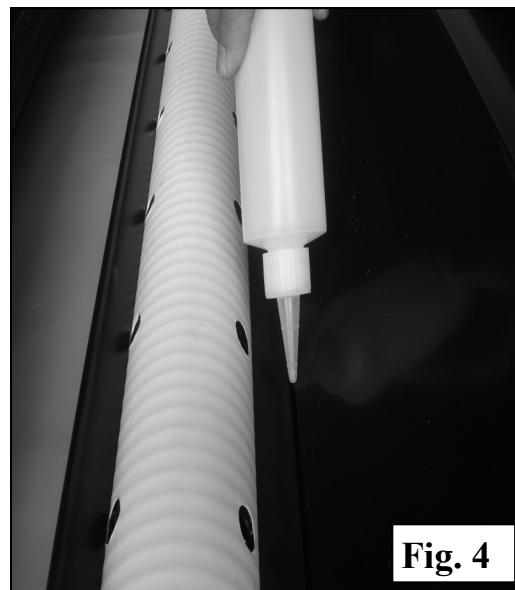

Fig. 4
1. With the side panel in place, apply a bead of the MEK on both sides of the retaining clip. Shown in Shown Fig. 4.